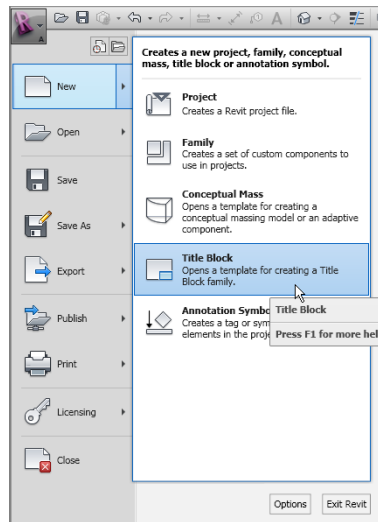

FIGURE 14.26: Creating a new title block
1. Click the Application button, and choose **New > Title Block**, as shown in Figure 14.26.